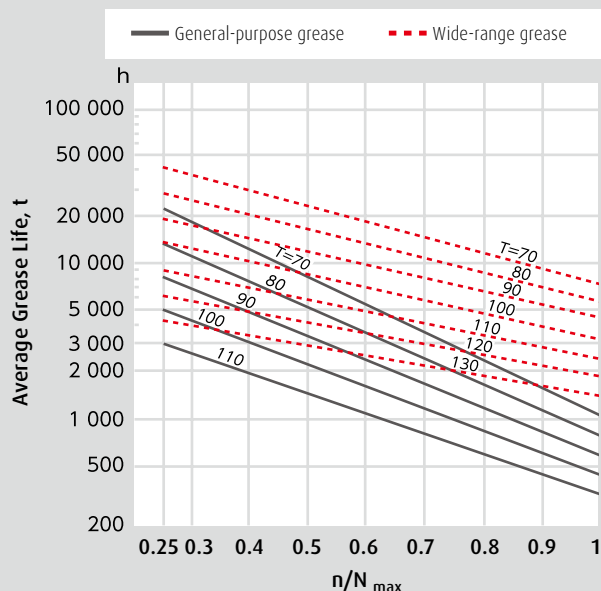

Fig. 3 Grease Life of Sealed Ball Bearings
When grease is packed into single-row deep groove ball bearings, the grease life may be estimated using Equation (1), Equation (2), or Fig. 3:
Equation (1), Equation (2), and Fig. 3 apply under the following conditions: